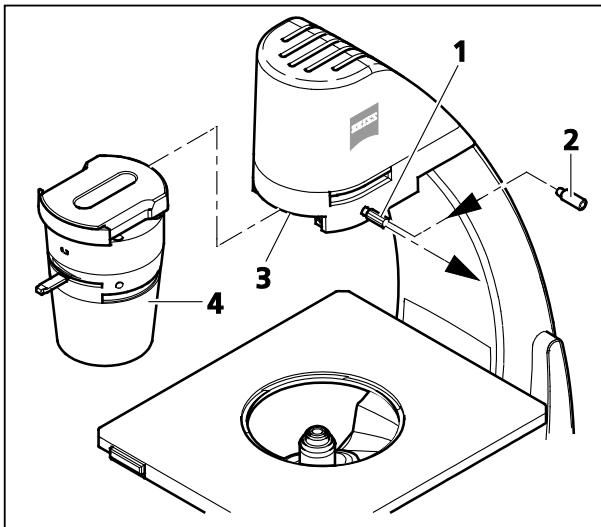

Fig. 4 Inserting the condenser
- Insert the condenser (Fig. 4/4) from the front into the guide (Fig. 4/3) and push it in to stop.
- Lock the condenser by tightening the socket head cap screw or the knurled thumb screw (Fig. 4/1), which is equally supplied with the microscope.
If condensers are frequently exchanged or whenever larger glass vessels are to be used frequently without a condenser, the knurled thumb screw supplied rather than the socket head cap screw (Fig. 4/2) should be employed to lock the condenser.